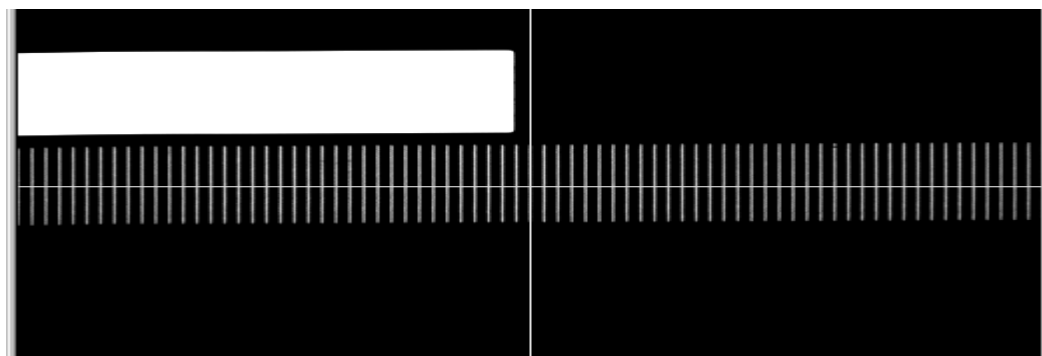

Fig. 5-196 Correct orientation of calibration sample for X scanner calibration (Axioplan 2ie)
- The calibration standard has to be positioned as indicated in Fig. 5-196.
- After calibration of X-axis the orientation of the calibration grid in the calibration window changes from horizontal to vertical orientation. The second grid of the calibration sample has to be selected and again positioned as indicated in Fig. 5-196.